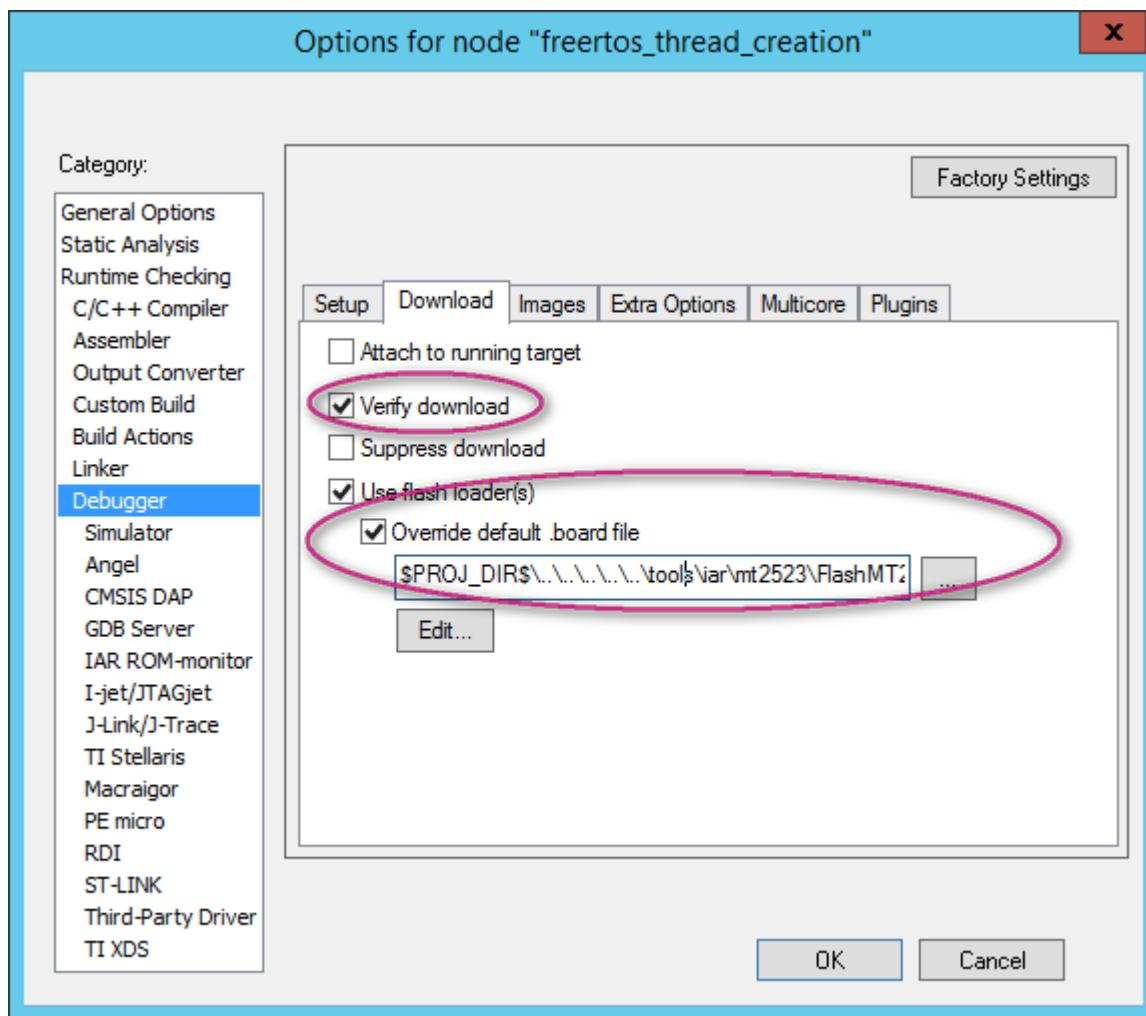

Figure 70. Configure the download settings
- 4) Navigate to the **Download** tab and configure the settings as shown in Figure 70).